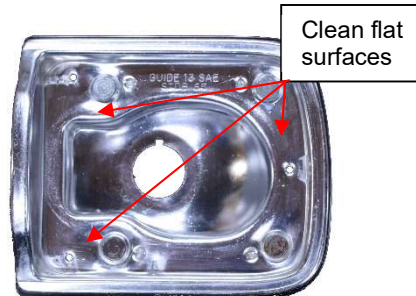

Figure 1
2. Clean the flat surfaces on the inside of the housing where the panel's mounting tape will be adhering. (See Figure 1) Note: These surfaces must be clean and dry to assure the best adhesion of the mounting tape that will hold the LED panels in position.